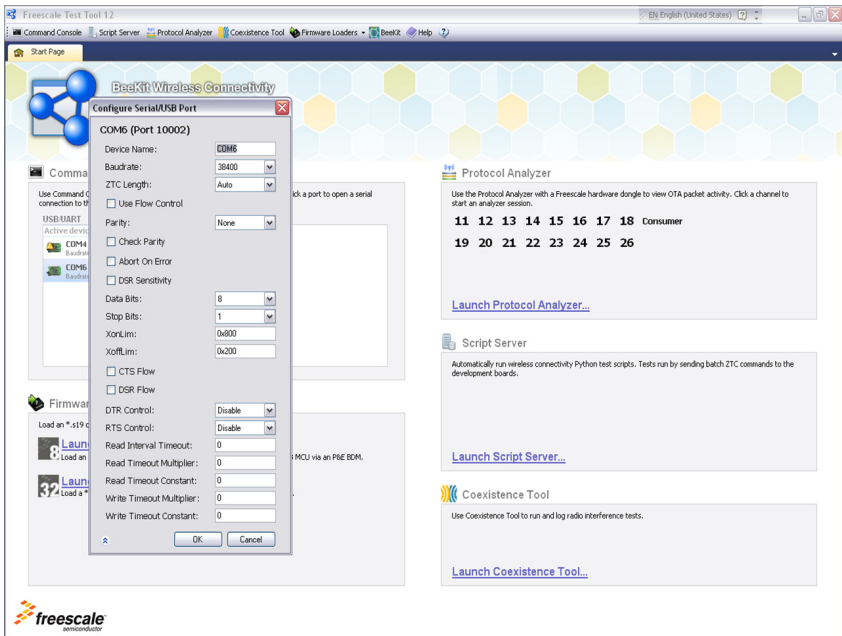

Figure 5-3. List of Devices Window
7. Set the baud rate at 38400 and check that all the settings are set as shown in Figure 5-3.